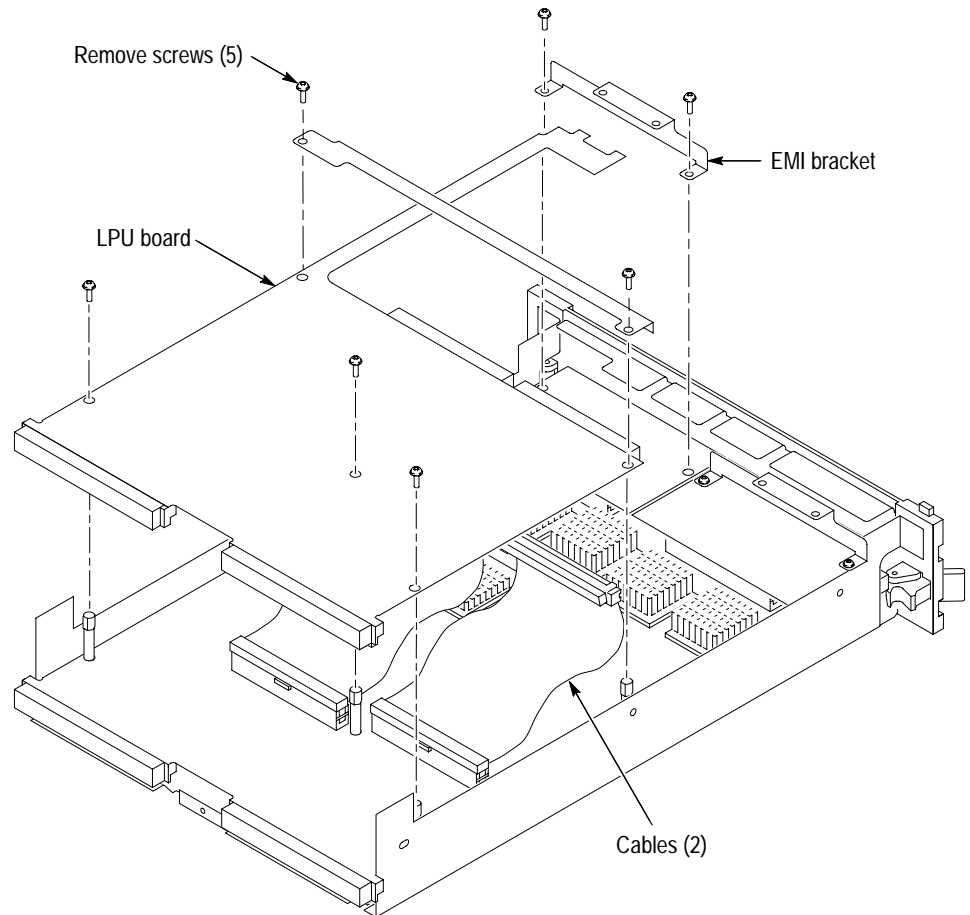

Figure 6-6: LPU board removal
**Installation** Use the following procedure and Figure 6-6 to install the LPU board.